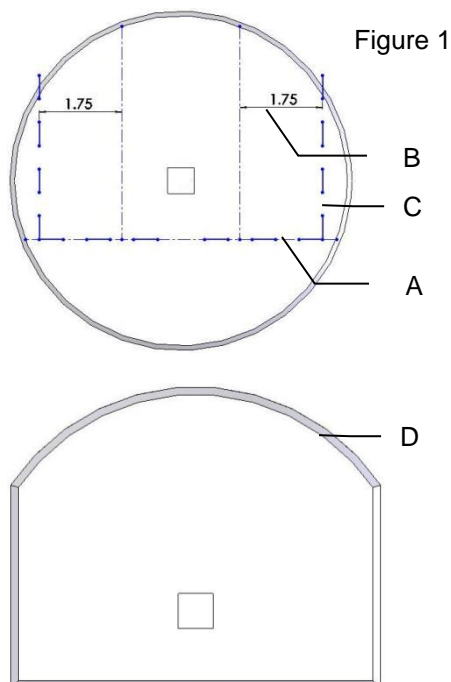

Figure 1
1. Both moisture discs (006-4641H) will need to be cut along the serrated line (A). (Figure 1) Measure from the laser etched line (B) 1.75 inches on both side. Mark and cut the disc. A completed disc is shown above (D).